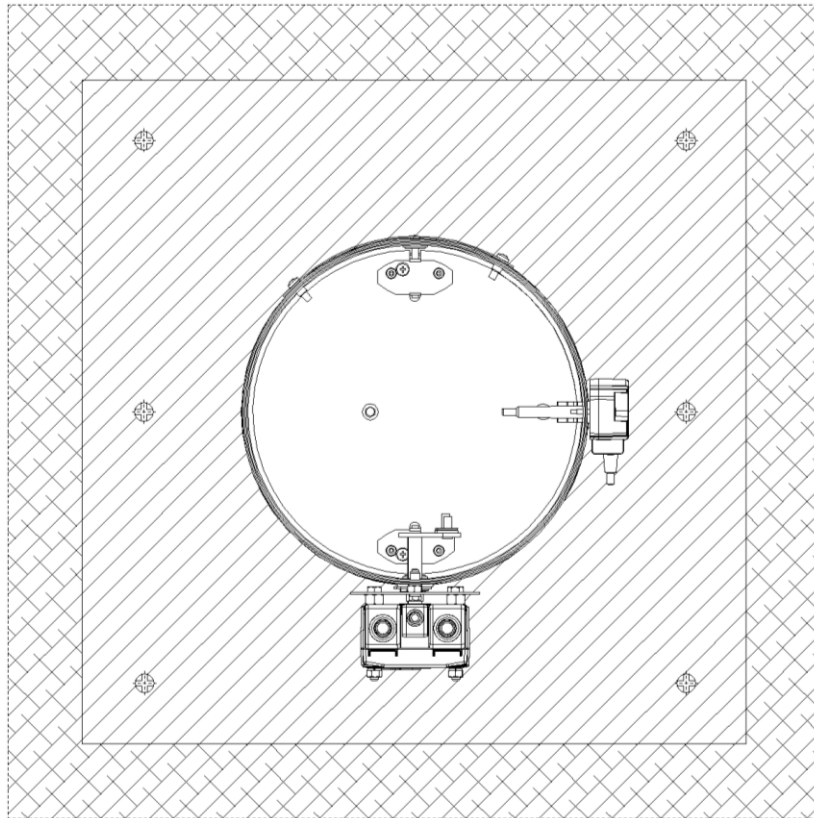

Figure 12. Installation method of fire dampers KTM in flexible wall with vertical rotation axis of baffle
- After mounting the collar, remove the supports or suspension, check the fire damper correct operation and leave it in open position (installing in KTM damper thermal fuse as shown on the fig. 12).